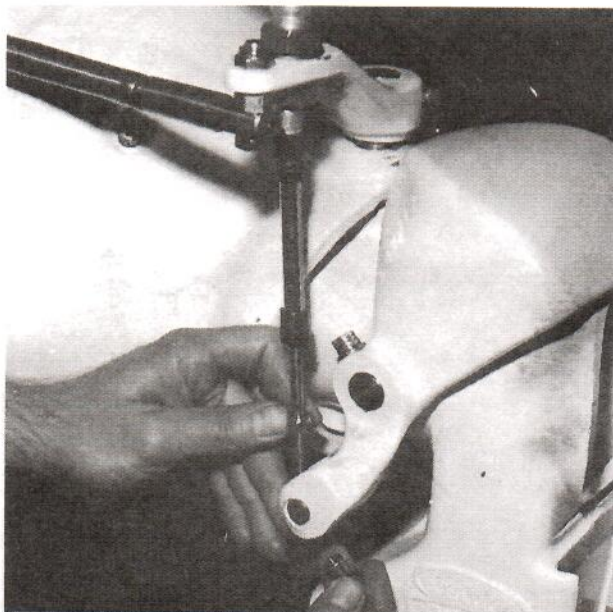

Figure 6
- 6 Slide the reverse control arm pin through the Nyliner bushings. Thread one reverse cable adjusting nut onto the cable rod about 3/4 of the threaded length and run the rod through the hole in the control arm pin. Attach the sleeve nut finger tight (Figure 6).